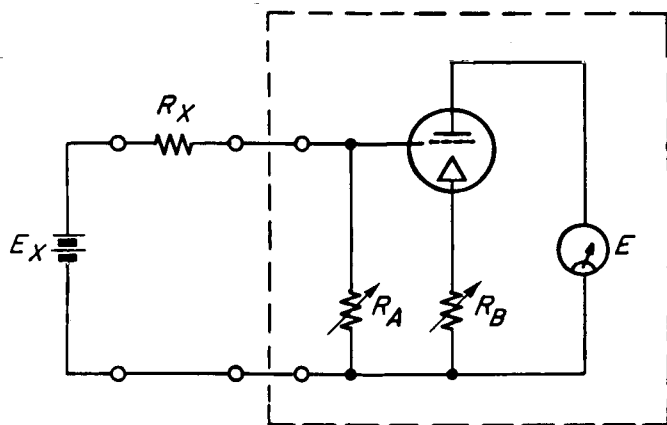

Figure 10. Connection for Measuring High Unknown Voltage.
4.8 HIGH-VOLTAGE MEASUREMENTS. Voltage measurements up to the kilovolt range can be made with the Type 1230-A Amplifier when an external resistance standard R_x is used. See Figure 10.